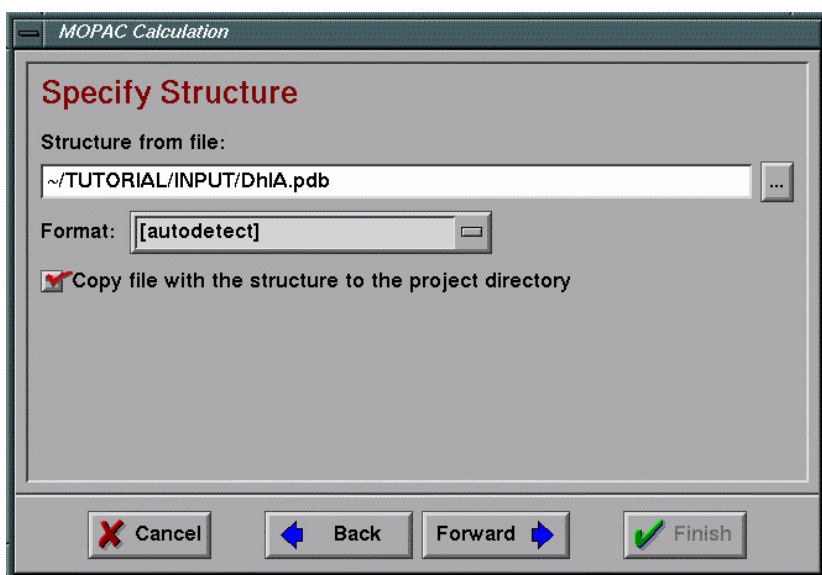

Fig 14.6 Window for specification of input structure for optimization project
- 5) Specify the file name and location of input structure for MOPAC calculation (**Fig 14.6**). You can read this structure from a file in PDB format. The structure must be properly protonated before reading it into TRITON!